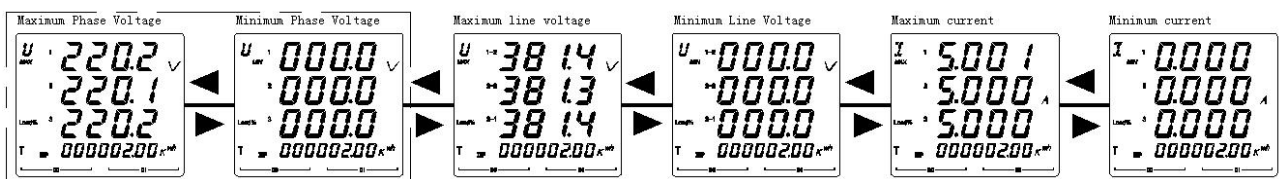

Figure 26
5.2.8 View the extreme value parameters of the PZ72L/80L/96L as shown in Figure 26.